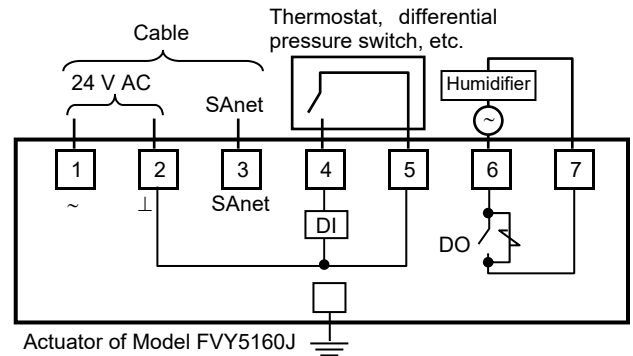

Figure 15. Basic connection example
- 3) Correctly connect the wires to the M3.5 screw terminals, as an example shown in Fig. 15.
- 1) Unscrew the 3 setscrews and remove the terminal cover. See Fig. 15 for removing the terminal cover.